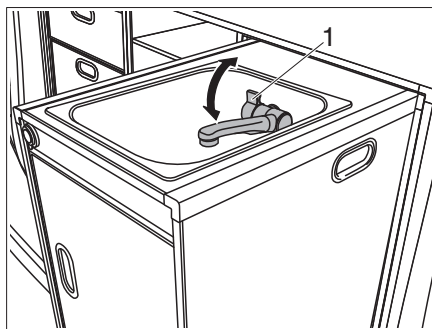

Fig. 44 Sink with water tap
The vehicle is equipped with an installed water canister. An electric water pump pumps the water to the water tap (Fig. 44,1). Opening the water tap automatically switches on the water pump and pumps water to the tap.
- Turn the water tap (Fig. 44,1).
- Turn the water tap (Fig. 44,1) back.